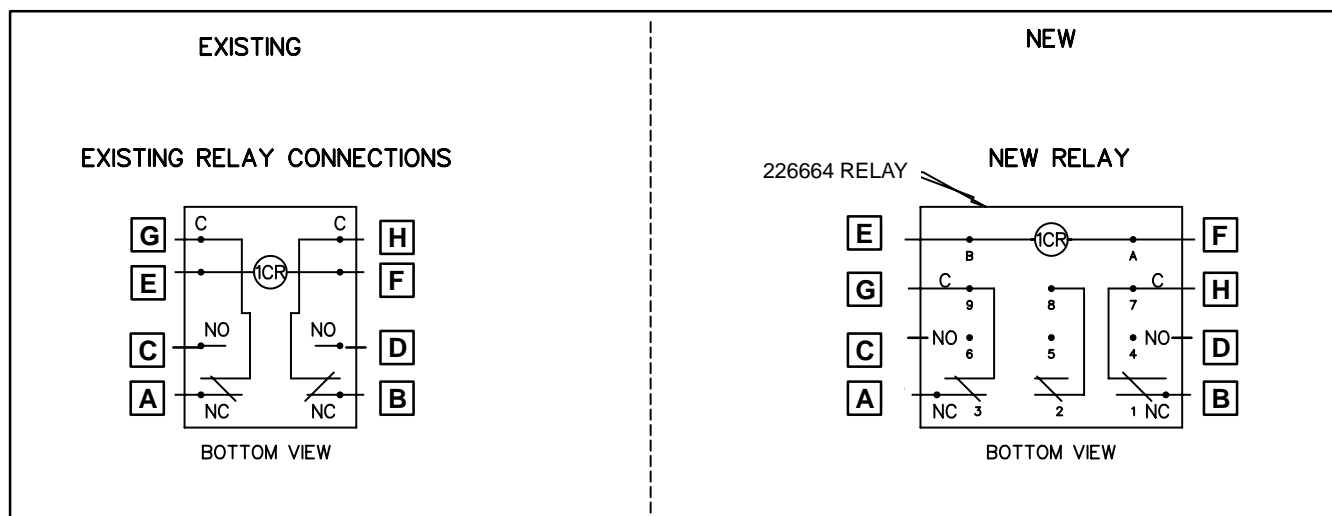

Figure 8. Wiring Diagram for 1CR and 2CR Relay
3. Examine existing 1CR or 3CR relay and compare to the illustration in Figure 8. Identify the leads using the letters shown in Figure 8. Do this using masking tape or some other means to identify each lead.
9. Connect controller leads to relay using wiring diagram found in Figure 8.